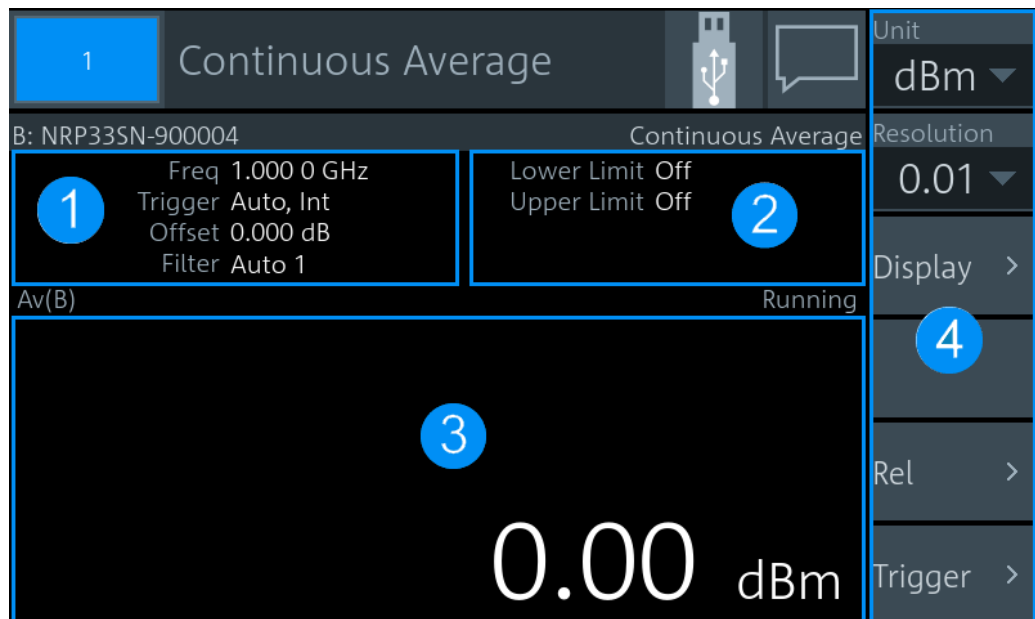

Figure 4-2: Layout of the main measurement dialog (example)
► Tap the *displayed settings*, (1) in Figure 4-2, to access the sensor settings.
- ▶ Tap the *displayed limit values*, (2) in Figure 4-2, to change limit values.
- ▶ Tap the *displayed measurement value or graph*, (3) in Figure 4-2, to change the measurement type, assign a sensor, access the sensor settings, ...
- ▶ Tap an *element in the navigation pane*, (4) in Figure 4-2, to configure the trigger, the presentation of the measurement result and further measurement-specific settings.